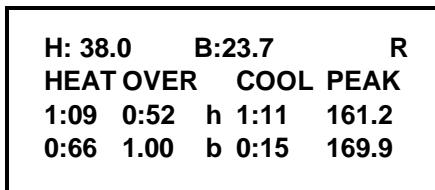

Figure 60
The third screen shows the right side (R) of the freezer. (See Figure 60.)